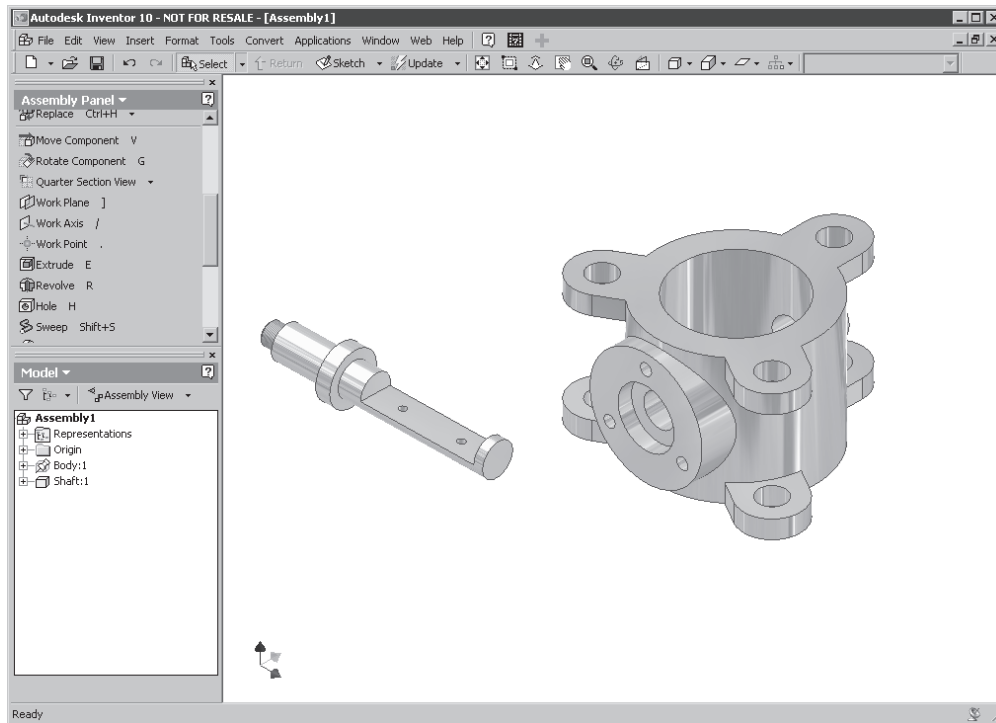

Figure 8-36 The assembly file after creating the Body and the Shaft
7. Choose **Move Component** from the **Assembly Panel** panel bar. You are prompted to drag the component to a new location. Select the Body and drag it to a new location where it does not interfere with the Shaft. Choose the **Zoom All** button to increase the display area. The screen display of the assembly file with both the components is shown in Figure 8-36.
If the orientation of the Shaft and the Body is different from the one shown in Figure 8-36, you can reorient them using the **Rotate Component** tool.